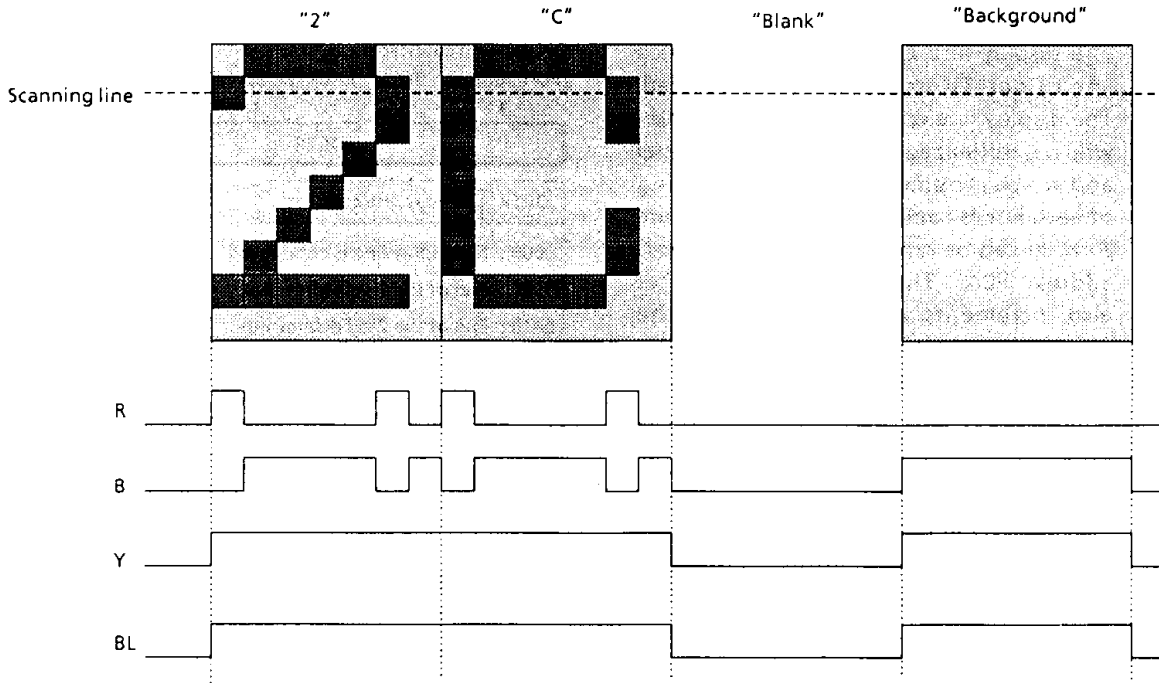
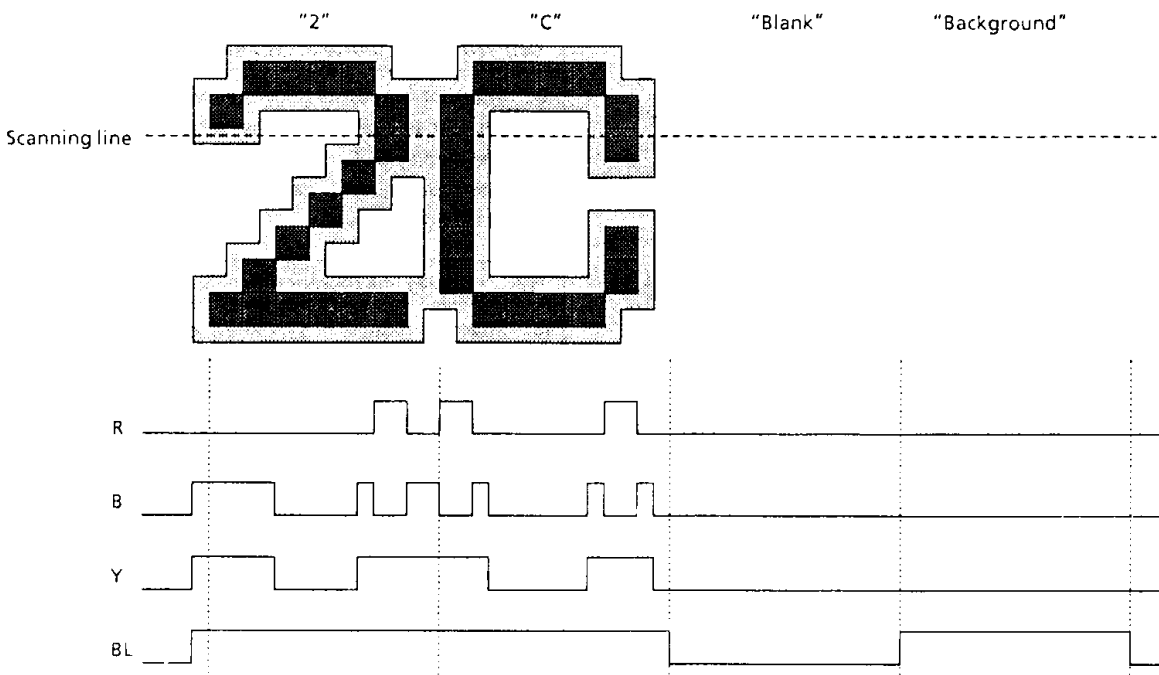

Figure 3-15. Example of OSD Display and Its Wave Form (1)
Figure 3-16. Example of OSD Display and Its Wave Form (2)
Figure 3-15 shows display example (1). The conditions for this example are as follows:
- ① Display data: 2, C, blank data (character code 7F_H), background (character code 7E_H).
- ② Color data: RDT = 1, BDT = 0, GDT = 0.
- ③ Background color data: BRDT = 0, BBDT = 1, BGDT = 0.
- ④ Fringing and smoothing disabled.
- ⑤ This screen display example is controlled by the R, B and BL signals.
Figure 3-16 shows display example (2). The conditions for this example are as follows:
- ① Display data: 2, C, blank data (character code 7FH), background (character code 7EH).
- ③ Background color data: BRDT = 0, BBDT = 1, BGD = 0.
- ④ Fringing enabled and smoothing disabled.
- ⑤ This screen display example is controlled by the R, B and Y signals.